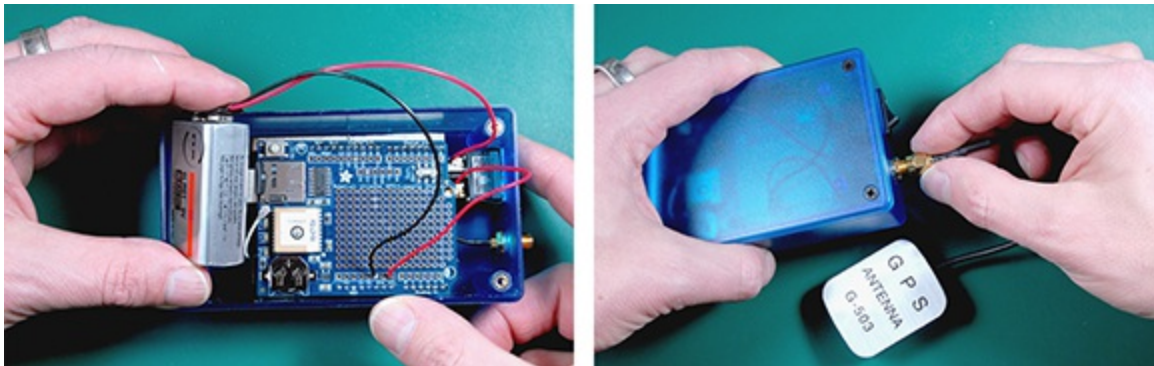

Figure 13-19: Connecting your battery and external antenna.
9. Make sure your power switch is turned off and attach your battery, as shown in Figure 13-19.